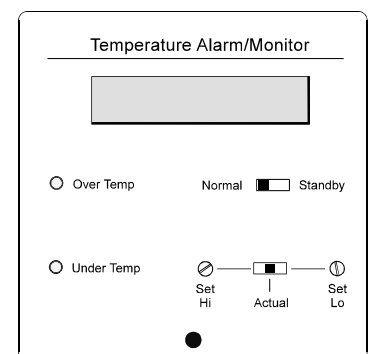

Figure 2-5
2.12 Setting the Over/Under Temperature Safety (Refer to Figure 2-5)
Refer to the control panel illustration in Figure 2-5 and look for this screwdriver symbol: